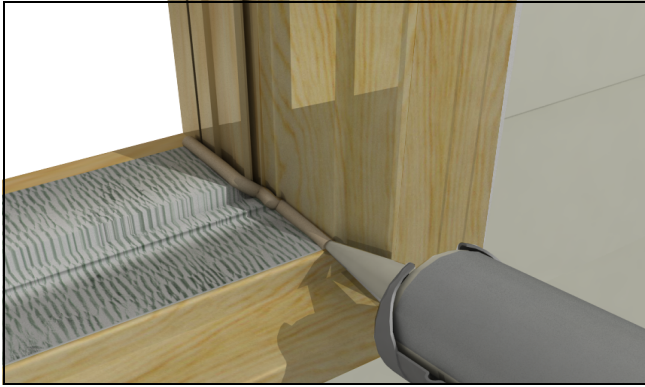

Figure 2
2. Apply a heavy bead of sealant at the sill and jamb joint. See figure 2. Tool into place making sure that the joint is well sealed.